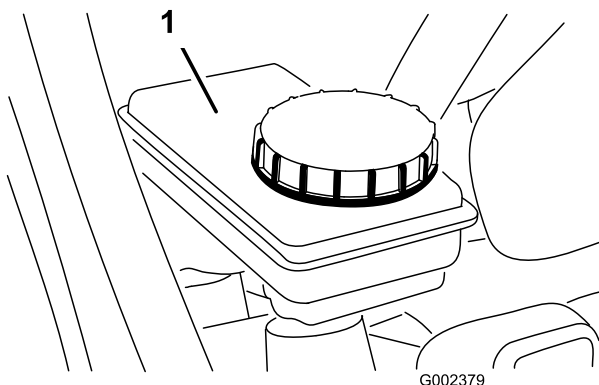

Figure 21
2. The fluid level should be up to the Full line on the reservoir (Figure 21).